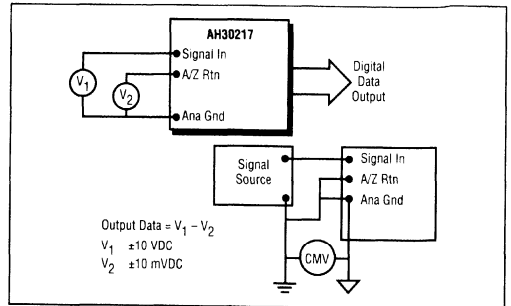

Figure 5. Connecting Input Signals to Remove CMV.
**Input Signals:** The AH30217 encodes the difference between two input signals (Figure 5). By providing a differential input, the AH30217 eliminates small system ground-loop voltages (up to 10 mV), common mode voltages, and minor system offsets. Use the 3-wire input configuration as illustrated in Figure 5.